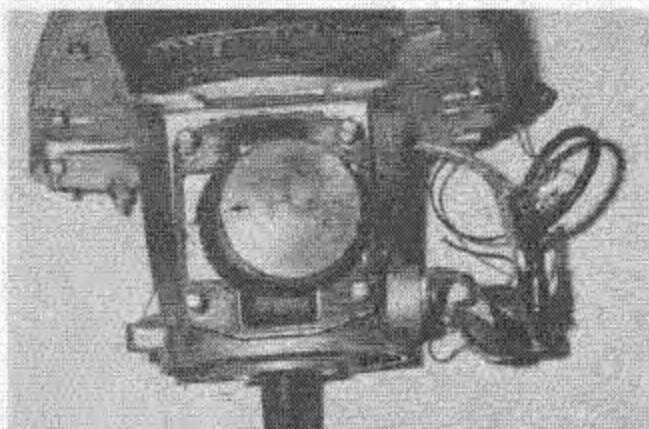

Fig. 8 — Piston Properly Installed
5. Install piston on connecting rod with arrow on piston toward exhaust side of engine (opposite coil mounting side of engine). See Fig. 8.